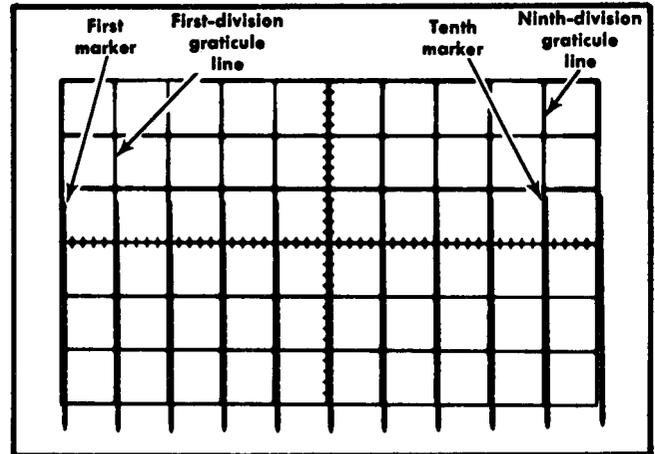

Fig. 5-17. Typical CRT display showing correct A sweep timing.
a. CHECK-Using the A TIME/DIV switch and time-mark generator settings given in Table 5-2, check A sweep timing within 0.24 division, over the middle eight divisions of the display (within 3%). Fig. 5-17 shows a typical CRT display when checking sweep timing.